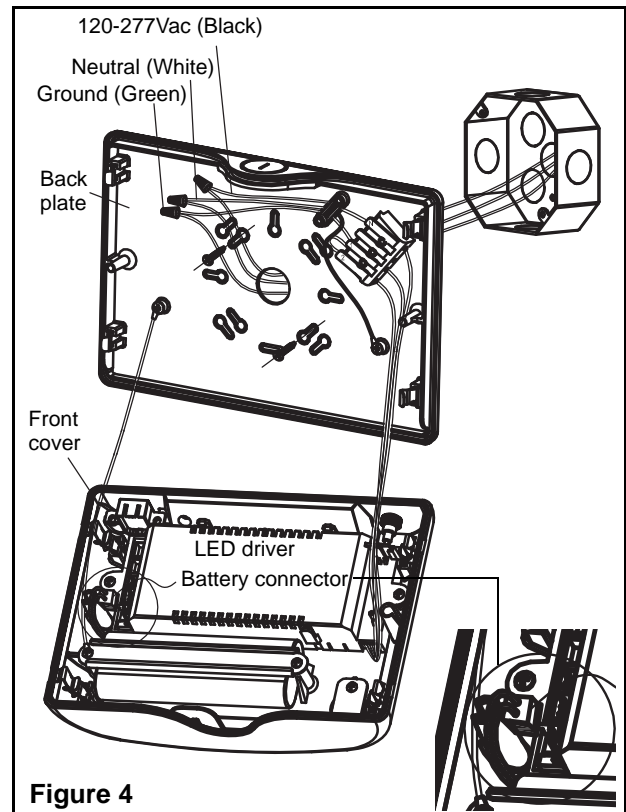

Figure 4
4. Mount and secure the back plate to the junction box (see figure 4).
7. Connect the battery connectors to the PCBA (see figure 4).